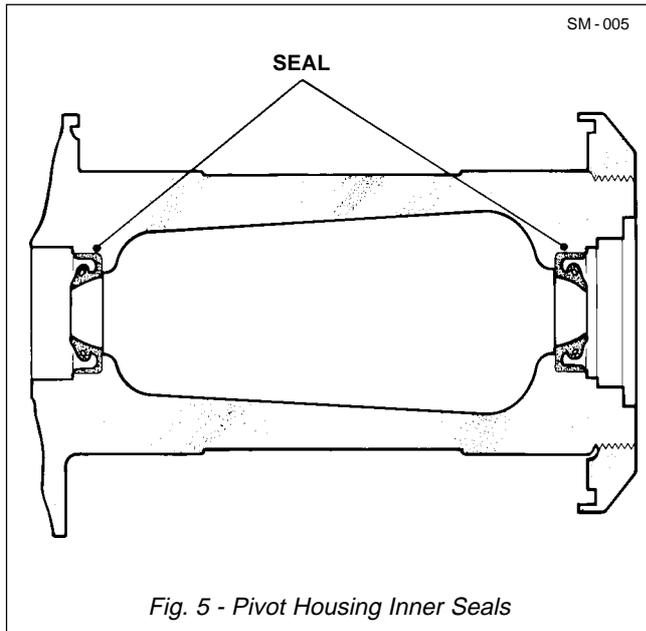
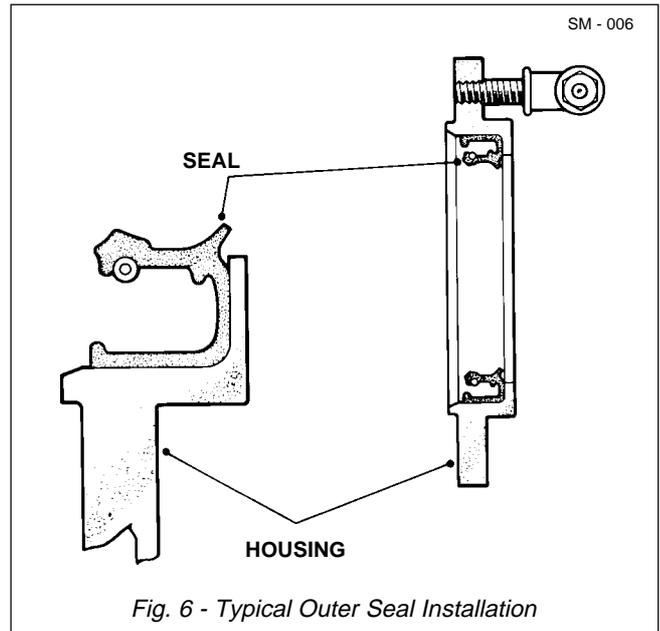

Fig. 5 - Pivot Housing Inner Seals
Fig. 6 - Typical Outer Seal Installation
7. Apply coat of grease to new seals (29) and install seals in pivot housing. Make sure seal lips are facing outwards as shown on Fig. 5.
8. Make sure that pivot shaft bearing (30) is pre-packed with grease then position spacer (19), bearing (30) and washer (39) on rear of shaft (37).
9. Apply bead of grease to fill inner rim of new seal (40) and position new seal in rear housing (31). Refer to Fig. 6. Fill lube fitting (24) assembly on rear housing with grease and make sure that nipple (22) does not protrude into grease slot in rear face of housing (31).
10. Assemble rear housing (31) and brake yoke/disc assembly (16) onto rear of shaft (37). Secure with locknut (25) and both washers (26) but only fingertight at this stage.
11. Insert shaft (37) assembly fully into pivot (1) from the rear. Take care not to dislodge internal seals (29).
12. Partially withdraw shaft (37) assembly to enable housing of rear pivot driveline bearing (30) to be filled with grease from 1/3 to 1/2 of capacity.
13. Reposition shaft (37) assembly fully in pivot (1).
14. Align housing (31) with lube fitting (24) uppermost and secure with lockwashers (14) and bolts (20). Torque tighten bolts (20) to 106 Nm (78 lbf ft).
15. Apply a bead of grease to fill inner rim of new seal (12) and position seal in front housing (28). Refer to Fig. 6. Fill pipe (3), through lube fitting (50), with grease. Make sure that pipe (3) does not protrude into grease slot in rear face of housing (28).
16. Install spacer (19) onto front of shaft (37).
17. Pre-pack bearing (30) with grease taking care not to place any grease on outer curved surface. Clean this surface with a suitable solvent where necessary and allow to dry.